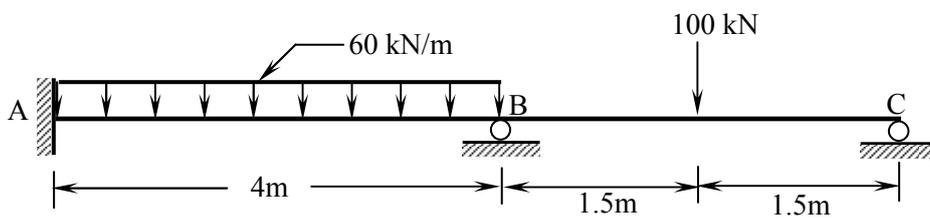

Figure 5.
- Q.5 (a)** Calculate the stiffness matrix (S) and load vector (A_D - A_{DL}) for the structure shown in the Figure 5. Take EI constant. **07**